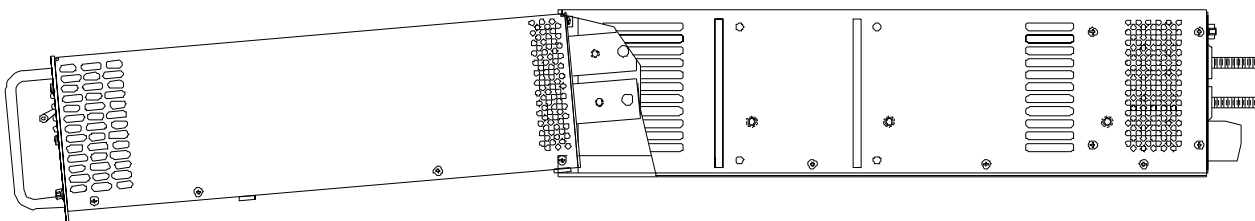

FIGURE 2. MODULE INSERTION, STEP A
Procedure. Referring to Figures 2 through 7, insert the power supply module into the rack adapter as follows:
A. Tilting the front of the module slightly lower than the rear, set the two rear-most plastic feet of the module on the front lip of the rack adapter opening (see Figure 2).